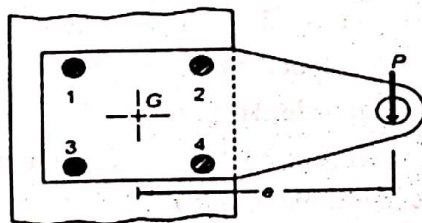

Fig. 13. a (i)
13. a) The structural connection shown in figure 13. a. i) is subjected to an eccentric force P of 10 kN with an eccentricity of 500 mm from the CG of the bolts. The centre distance between bolts 1 and 2 is 200 mm, and the centre distance between bolts 1 and 3 is 150 mm. All the bolts are identical. The bolts are made from plain carbon steel 30C8 ( $S_{yt} = 400 \text{ N/mm}^2$ ) and the factor of safety is 2.5. Determine the size of the bolts. (13)